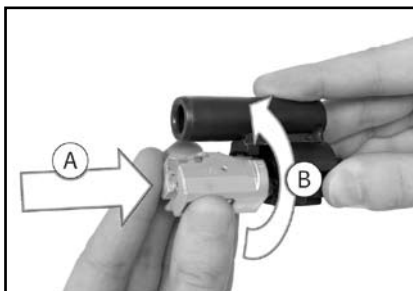

Fig. 41 – Insert bolt head
5. Place bolt head with extractor upwards Ⓐ onto locking piece (Fig. 41).
6. Turn bolt head counter-clockwise Ⓑ until the connecting piece audibly and tangibly snaps into place (Fig. 41).